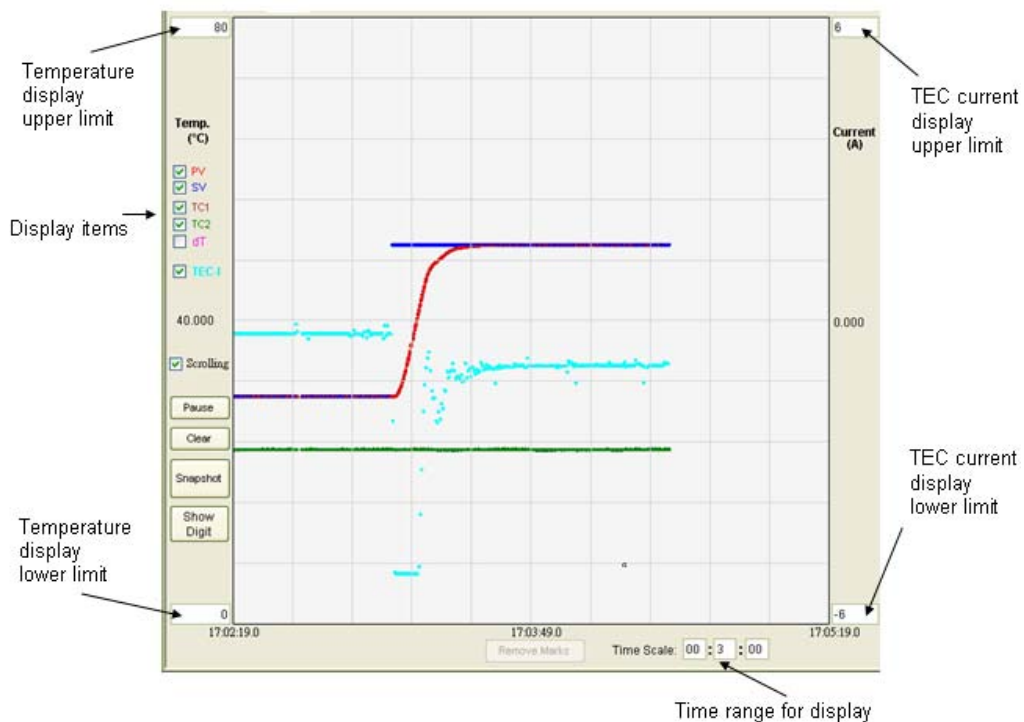

Figure 3-6 X & Y Range Settings for Temperature & TEC Current Time Curves
- Temperature and TEC Current Time Curves: The graphic window shows PV, SV, TC1, TC2, and TEC current with real time updates. The set the display X-range (time scale) and Y-range (left for temperatures and right for current), one simply keys in the numbers for time and upper/lower limits, as shown in Figure 3-6.
Beside the range settings, the checking box on the left selects which item to be or not to be displayed. Only the items checked will be displayed, and those are PV, SV, TC1, TC2, and TEC current for the case in Figure 3-6. The Pause button can halt the graphics and the curves stop extension with time. This helps to freeze and analyze the curves. The Clear button will clear the graphics and the curves re-scan from time zero again. The Snapshot button can store the whole main window in graphic form as a jpeg file. Clicking Show Digit will pop up a real-time number display table showing all temperatures and TEC current, as shown in Figure 3-7. dT in this table is defined as TC1-TC2, the temperature difference between the two thermal couples.